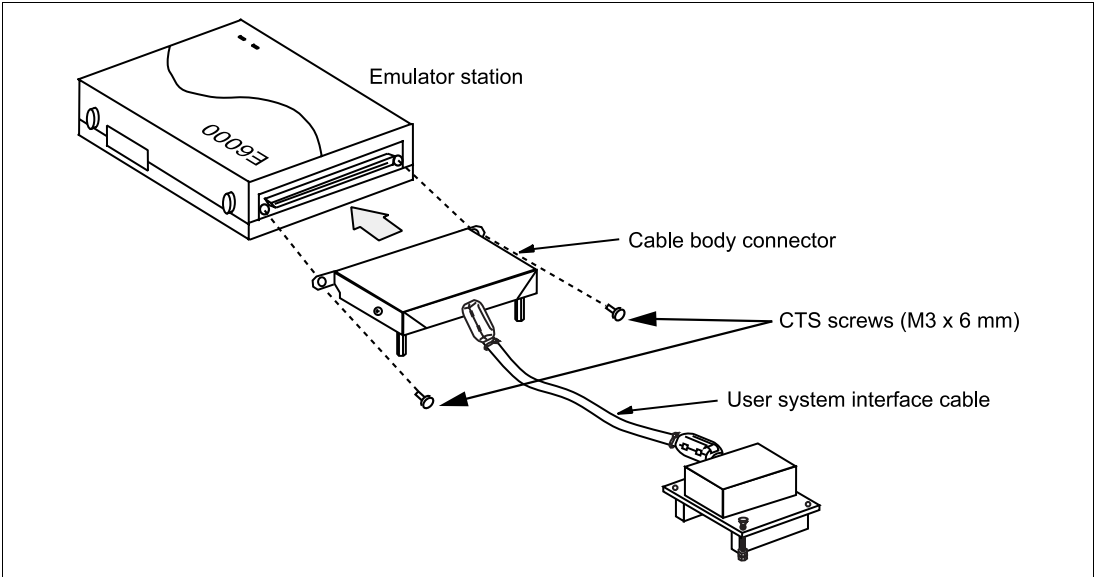

Figure 2 Connecting User System Interface Cable to Emulator Station
2. After making sure the direction of the cable body connector is correct, firmly insert the cable body connector into the emulator station socket, and fasten the emulator station with two CTS screws (M3 x 6 mm) as shown in figure 2.